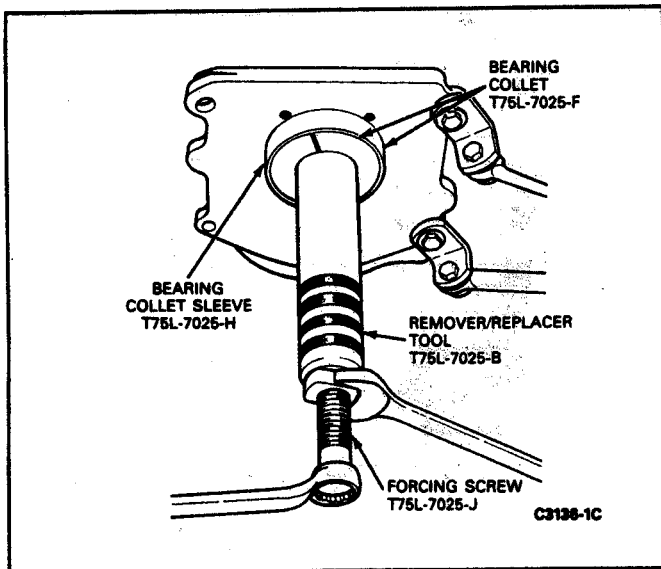

FIG. 6 Removing Output Shaft Bearing
7. Install tool, T75L-7025-B, F, H and T84T-7025-B on the output shaft and over the output shaft bearing (Fig. 6). Remove the output shaft bearing.